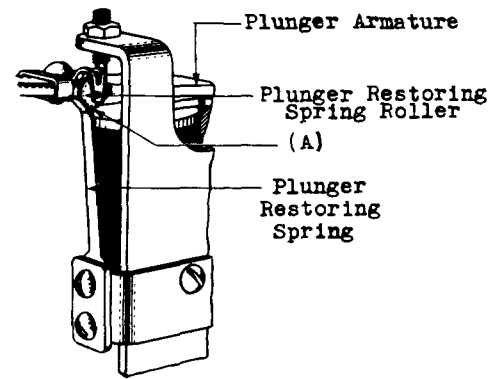

Fig. 9 — Plunger Restoring Spring Position
2.17 Plunger Restoring Spring Position: Fig. 9(A) (primary line switch only)